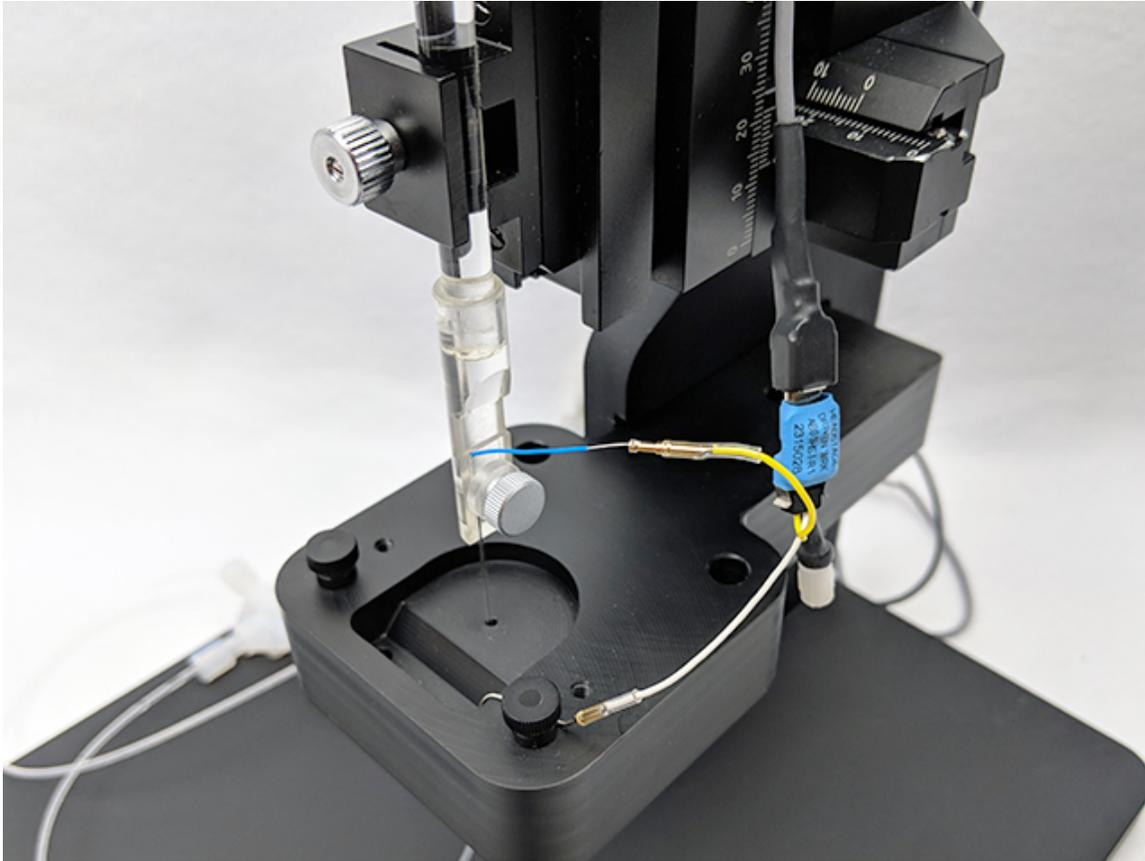

Figure 4-4. Complete Electrode Holder Style Setup
5. Connect the working (and reference) electrode to your potentiostat. This will vary by lab and vary by potentiostat. For the Pine Research WaveNeuro, connect the yellow lead to the working electrode and the white lead to the reference electrode (see: Figure 4-4).